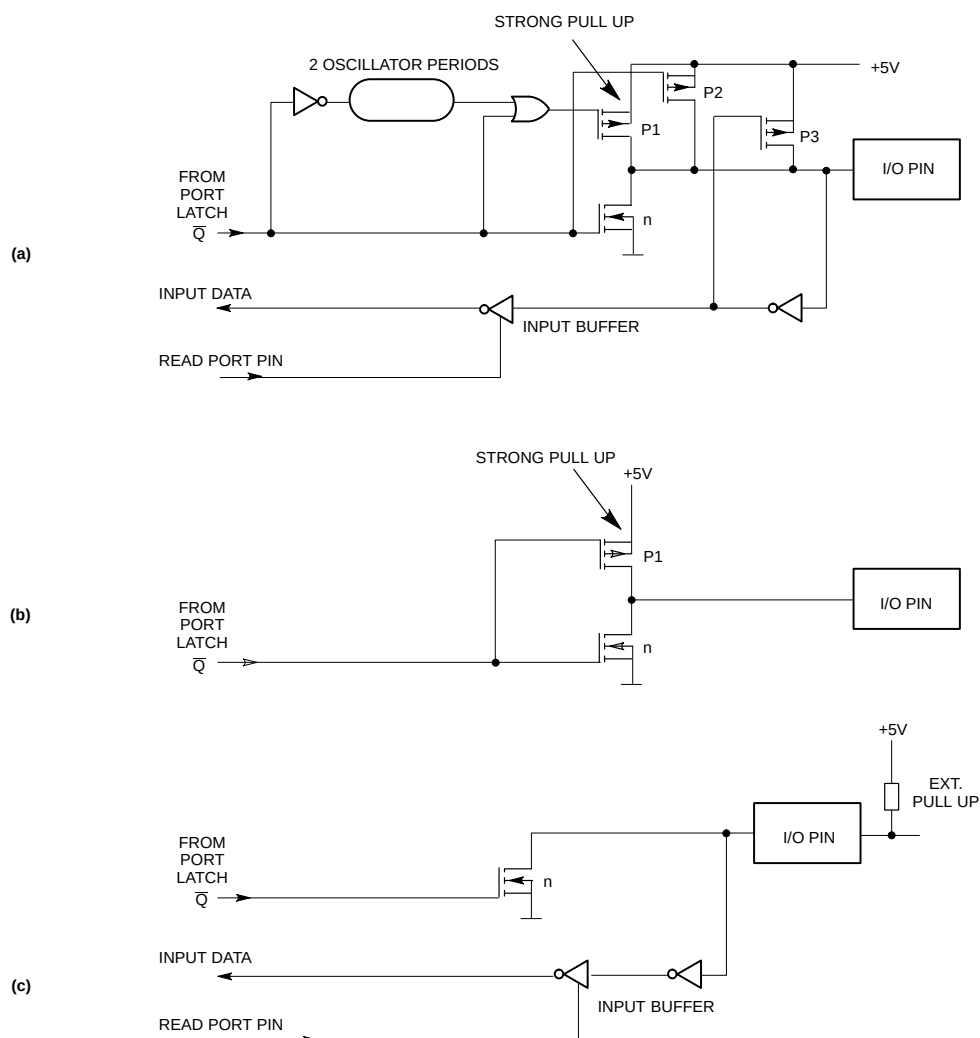

Figure 3. Ports
Each port consists of a latch (Special Function Registers P0 to P3), an output driver and an input buffer. Ports 1,2,3 have internal pull ups. Figure 3(a) shows that the strong transistor p1 is turned on for only 2 oscillator periods after a 0-to-1 transition in the port latch. When on, it turns on p3 (a weak pull up) through the inverter. This inverter and p3 form a latch which hold the 1. In Port 0 the pull up p1 is only on when emitting 1s for external memory access. Writing a 1 to a Port 0 bit latch leaves both output transistors switched off so the pin can be used as a high-impedance input.
The pins of port 1, port 2, and port 3 may be individually configured with one of the following options (see Figure 3):
- Option 1: Standard Port; quasi-bidirectional I/O with pull up. The strong booster pull up p1 is turned on for two oscillator periods after a 0-to-1 transition in the port latch (see Figure 3(a)).
- Option 2: Open drain; quasi-bidirectional I/O with n-channel open drain output. Use as an output requires the connection of an external pull up resistor (see Figure 3(c)).
- Option 3: Push-Pull; output with drive capability in both polarities. Under this option, pins can only be used as outputs. See Figure 3(b).
The status of the external pins during Idle and Power-down mode is shown in Table 1. If the Power-down mode is activated while accessing external memory, port data held in the Special Function Register P2 is restored to Port 2. If the data is a logic 1, the port pin is held HIGH during the Power-down mode by the strong pull up transistor p1 (see Figure 3(a)).